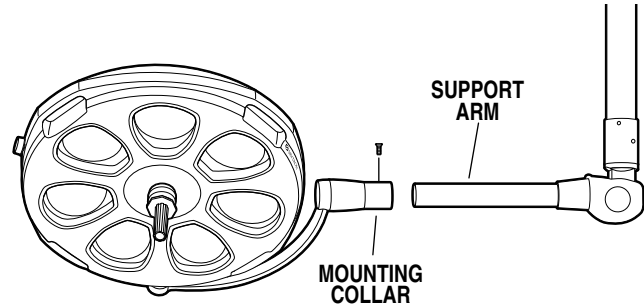

Figure 7. Model 29 Lighthouse Installation
b. Remove the four (4) screws from the light-head mounting stub.
c. Install the lighthouse mounting collar onto the support arm and secure with the screws previously removed. See figure 7.